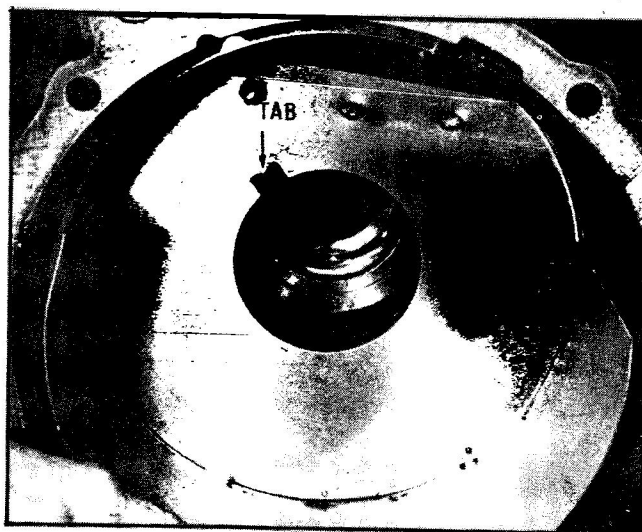

Fig. 35 Install Oil Baffle
7. Install oil baffle into transmission case, (Fig. 35). Be sure the tab at rear of baffle fits into recess of transmission case.